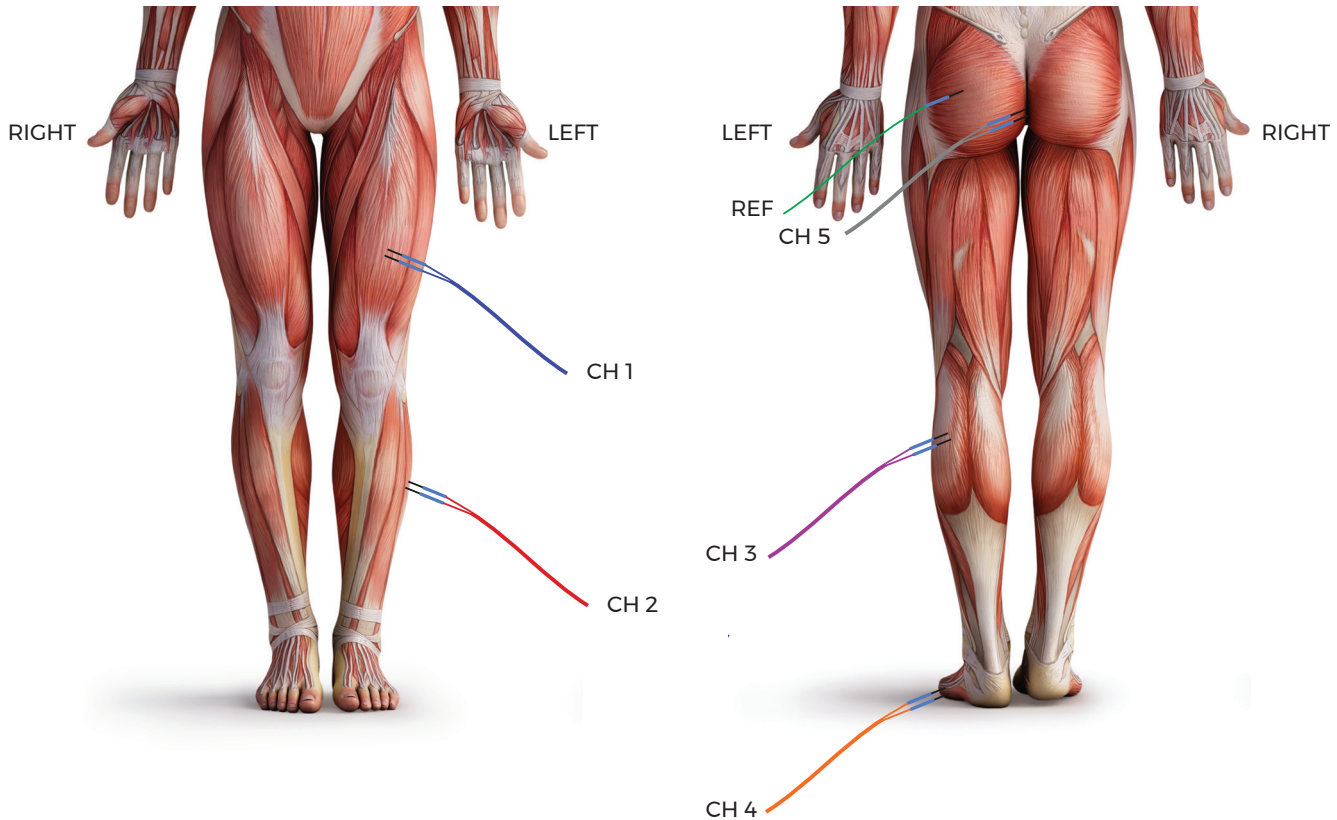

Figure 17.1: Suggested electrode placement for monitoring of hip replacement.
2. Look at Figure 17.1 (page 38) to decide which nerve roots are to be monitored.